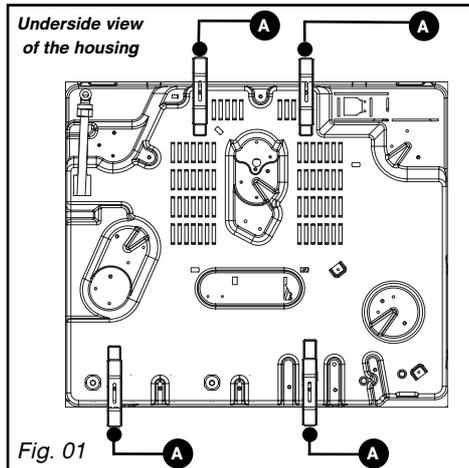
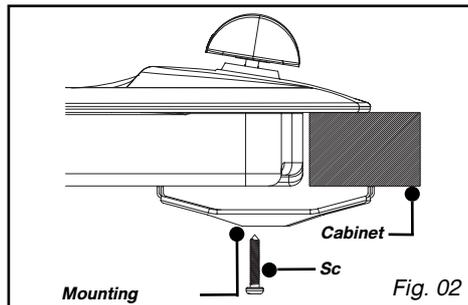

Fig. 01
Fig. 02
To ensure that the hob and the work top are leaktight, glue the seal provided in the front pocket before installing the hob: Follow the diagram (Fig. 01).
– To ensure a tight seal between the housing and the work top, glue the foam seal **along the exterior edge of the housing** (Fig. 02).
- If you wish, you can immobilise the hob using the four mounting brackets delivered with a screw (Fig. 02) to attach them to the four corners of the housing. **You must use the holes provided for this purpose, according to the diagram above (Fig. 01).**
– **Connection with a wavy metal hose** (stainless steel) with screw-on **mechanical connectors** (compliant with NF D 36-125 standard) whose service life is unlimited (Fig. 01).
– **Connection with a reinforced rubber hose with screw-on mechanical connectors** (compliant with the XP D 36-112 standard) whose service life is 10 years (Fig. 02).